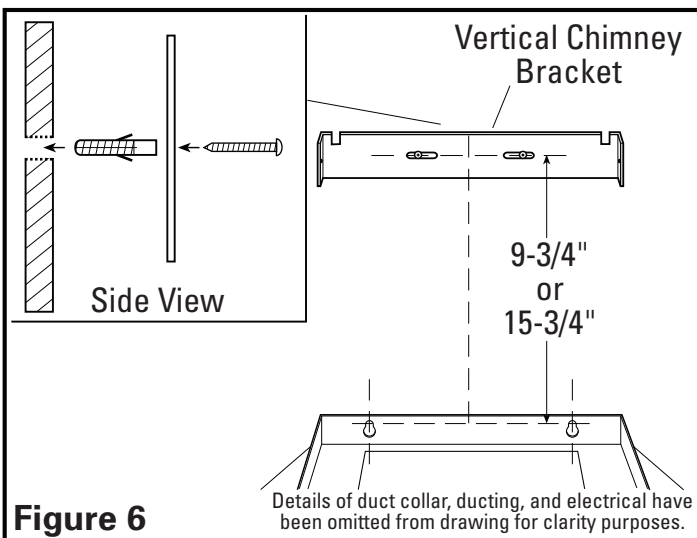

Figure 6
2. If installing onto drywall, drill holes into wall using a 3/16" drill bit. Install wall anchors into the drilled holes (one for each hole). Secure bracket into place with (2) provided #6 x 1" screws. If installing into other material (brick, cement, plaster, etc.) choose an appropriate fastener capable of supporting the weight of the chimney (**Figure 6**).